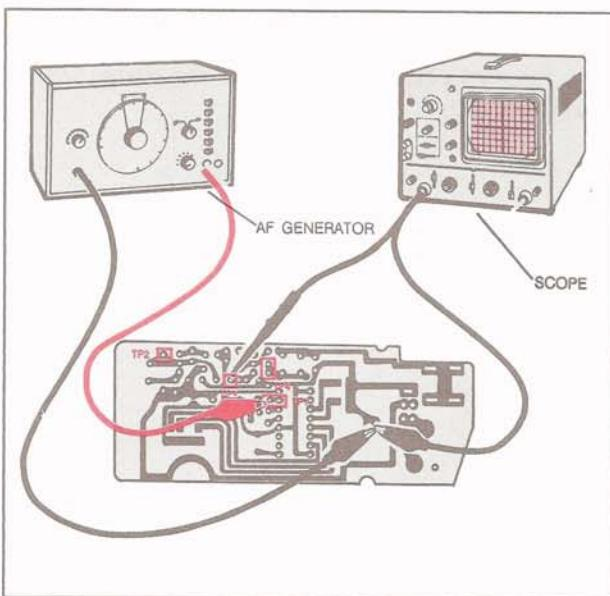

FIG. 65
- 2. Connect the scope probe to Test Point TP3 and the ground lead to the (-) terminal of the battery (See Fig. 65).